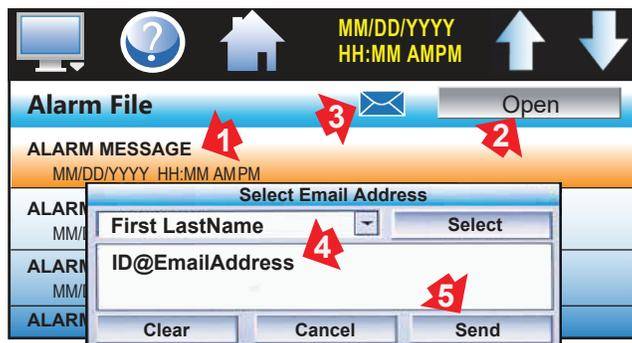

Figure 42. Alarm File Screen
2. Touch: (1)File from list (2)Open to view (3)Email icon (4)select recipients from the Select Email Address pop-up (5)Send (Figure 42).